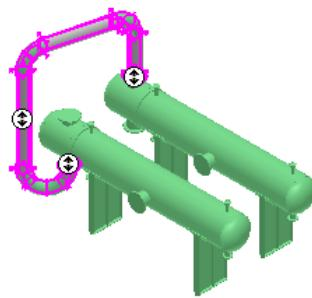

Figure 38: Pipe Run for Modification
2. Select the pipe run **Copy of U04-12-P-xxxx-1C0031** (*copied run created in previous lab*) in the graphic view, as shown in Figure 38.